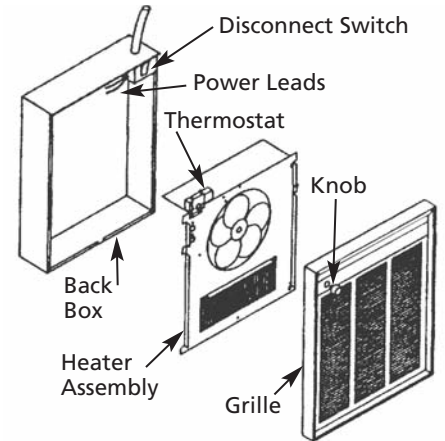

Figure 5
After back box is completely installed and no further construction dirt is expected, clean debris from back box, remove heater assembly from its carton, then refer to Figure 5 and proceed as follows:
2. Remove the grille (Figure 5, page 3) and turn the disconnect switch to the OFF position.